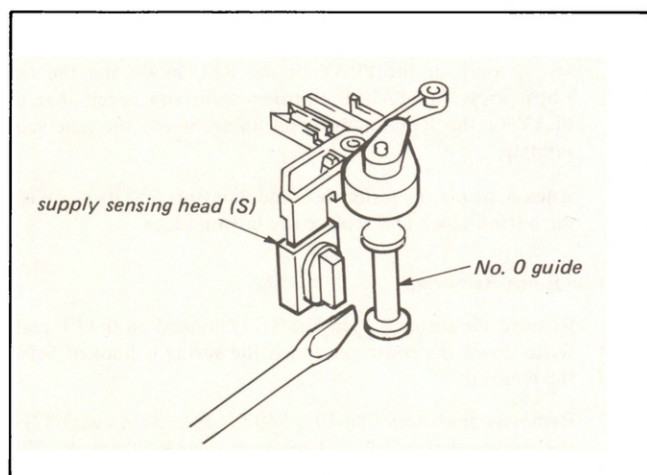

Fig. 3-33.
3. Approach a tip of a standard blade screwdriver to a point 1 mm to 3 mm away from the supply side end sensor while pushing the FF button. (See Fig. 3-33.)